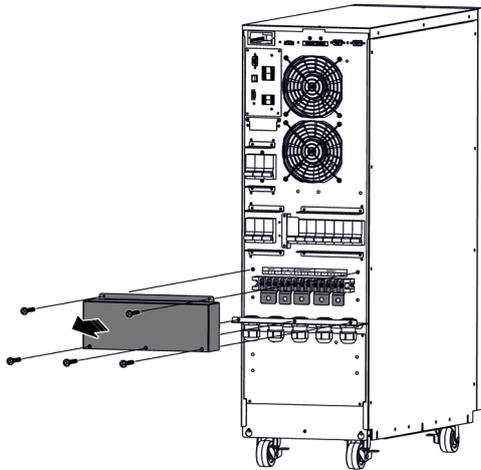

Fig. 24. Removal of the protective cover from the connection terminals.
- Before proceeding with the connection, it is necessary to remove the protective cover from the terminal block, as shown below in *Fig. 24*: